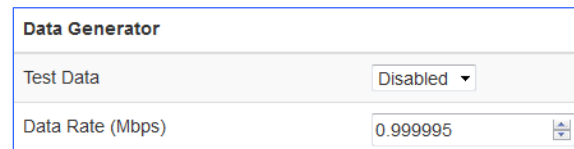

Figure 263: Data Generator, Data Rate Selection
- Data rate in Mbps – Typing a number in this field sets the data rate in Mbps, as shown in Figure 263